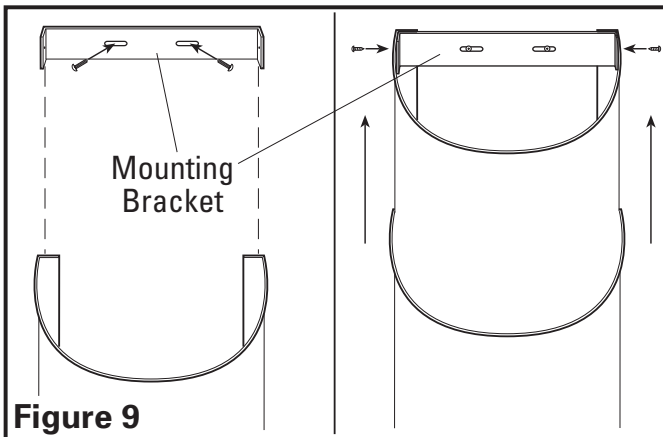

Figure 9
- To install the optional top section, mark the location of the included horizontal mounting bracket using the bracket as a template. Make sure the bracket is level and in line with the bottom section. The height will be dependent on your installation requirements. Make sure the slots in the side of the chimney will match the holes in the mounting bracket. Drill holes into wall using a 1/4" drill bit. Install included wall anchors into holes and secure bracket into place with two provided 3.19 x 32 mm screws (**Figure 9**).
- Raise top chimney in place over horizontal mounting bracket and secure in place with the two included 3.5 x 9.5 mm screws (**Figure 9**).